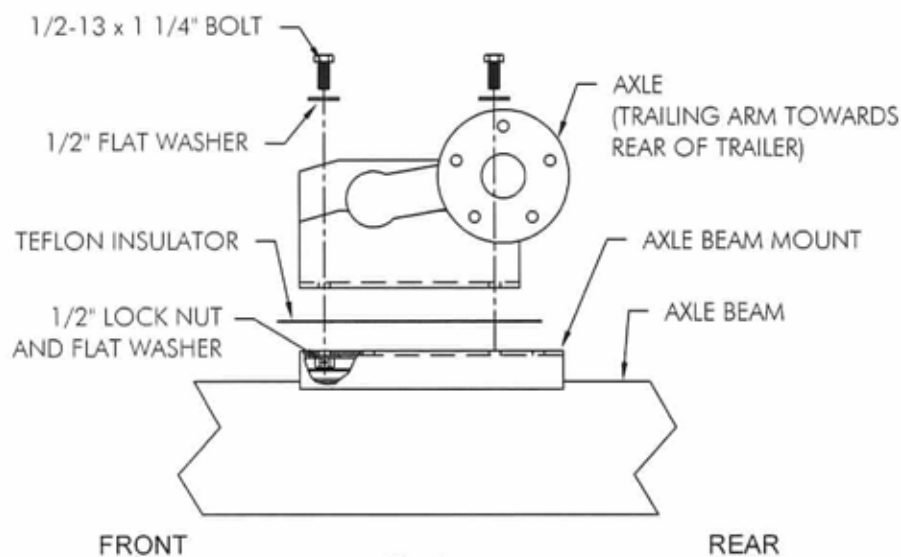
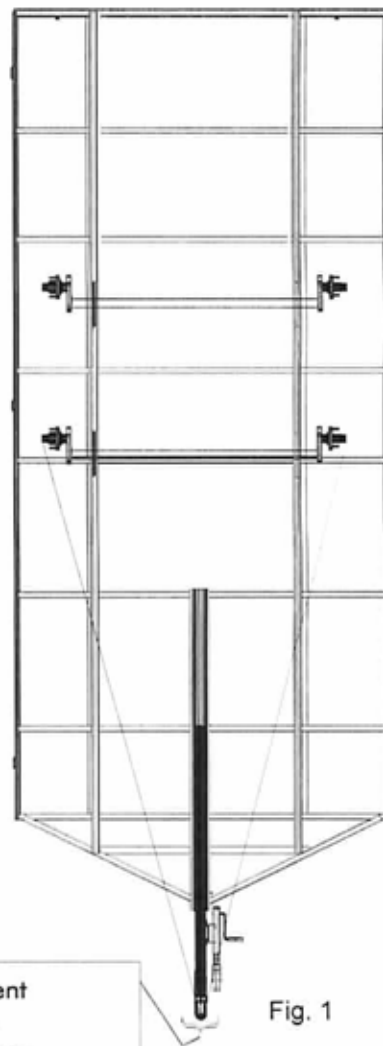

Fig. 2
Fig. 1
2. Loosen the tongue clamp by turning the Knob Bolt. Remove hair pin clip from the tongue mount. Slide tongue into tongue mount through the clamp. (Dee Fig. 2).
2. Set axle(s) on top of Teflon insulators so trailing arm taper is to the rear of trailer. Start each of the four bolts but do not snug up yet. See Fig. 1 and Fig. 2